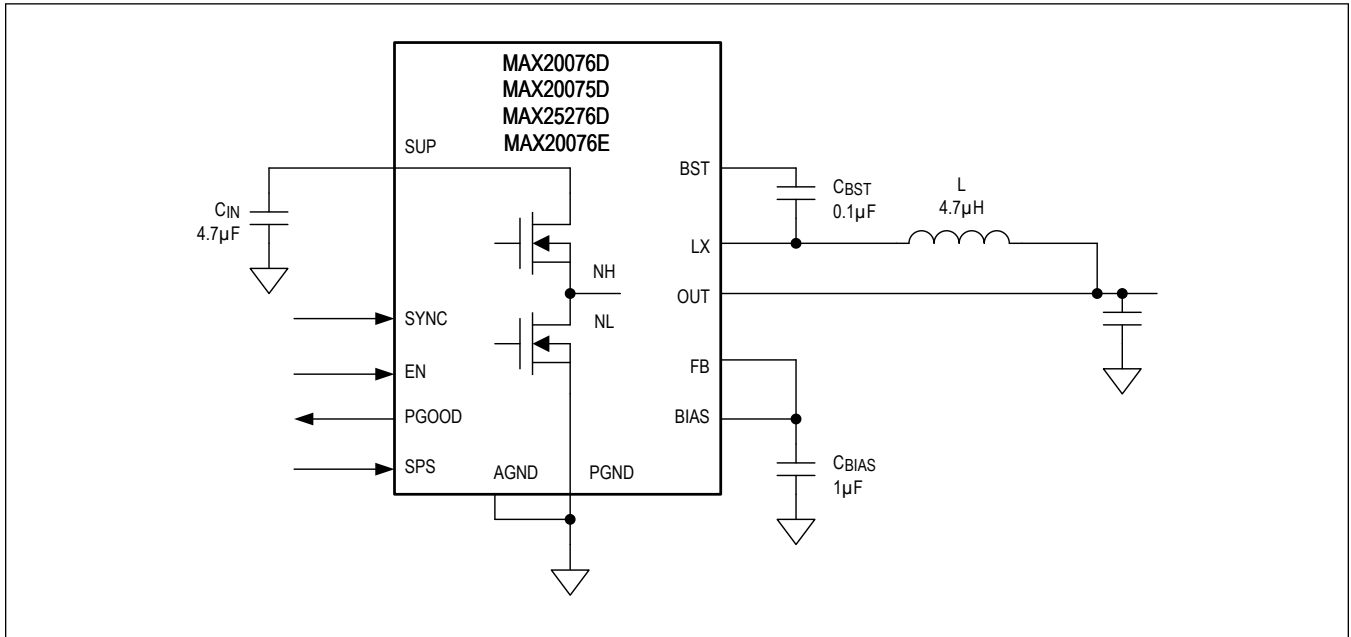
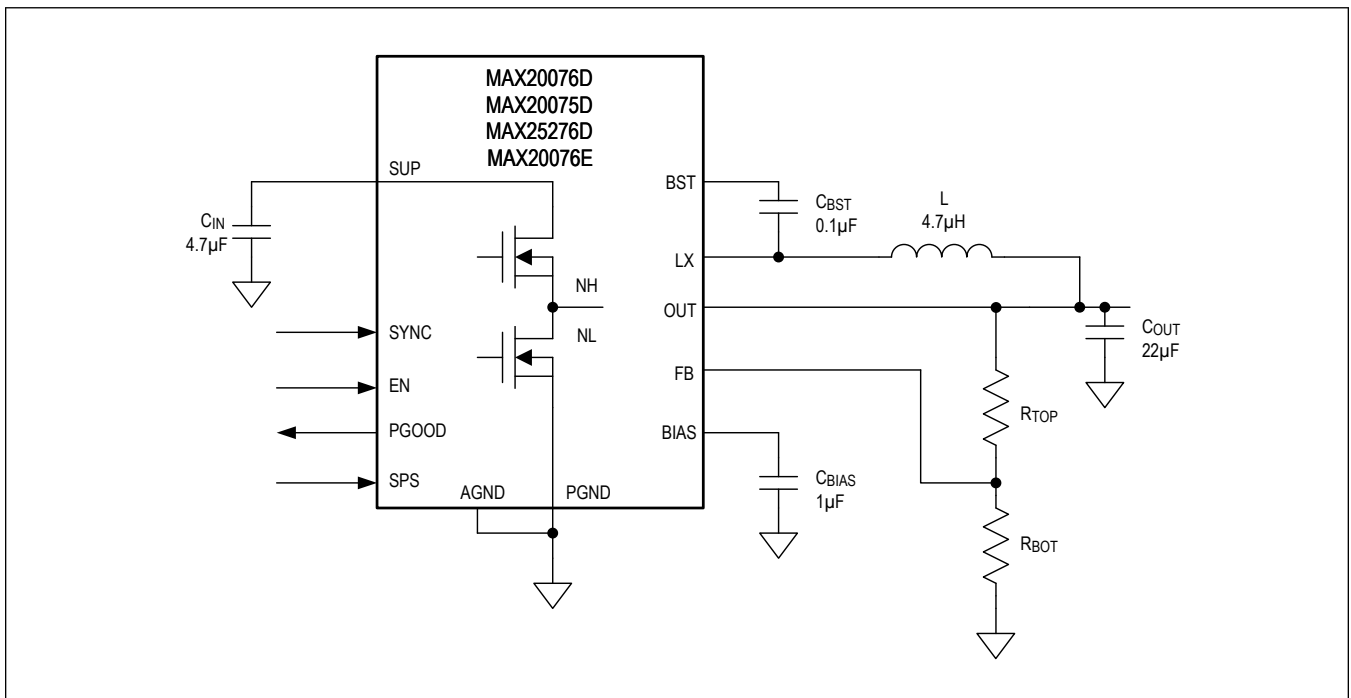

Figure 2. MAX20075D/MAX20076D/MAX20076E/MAX25276D Application Circuit with Fixed Output Voltage
Figure 3. MAX20075D/MAX20076D/MAX20076E/MAX25276D Application Circuit with External Resistor-Divider to Set Output Voltage
1. The input capacitor (4.7μF, see Figure 2 and Figure 3) should be placed right next to the SUP pin. Since the MAX20075D/MAX20076D/MAX25276D operate at 2.1MHz switching frequency, this placement is critical for effective decoupling of high-frequency noise from the SUP pins.